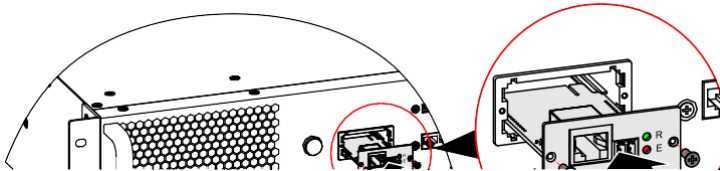

Figure3-22 Install SNMP card
Step 2 Take the SNMP card and install it on the bypass unit by 2 bolts, as shown in Figure3-22.